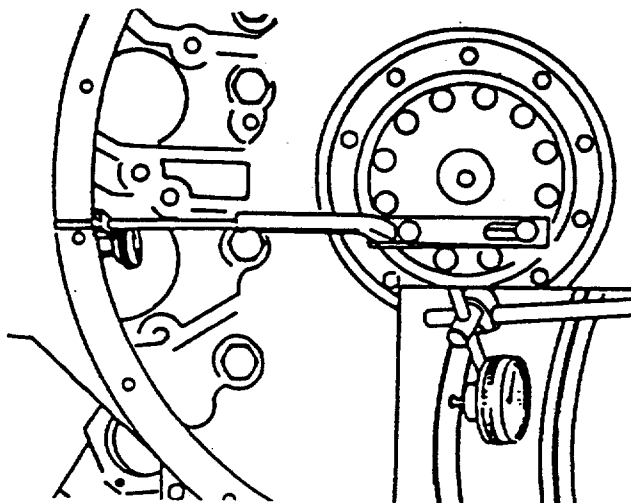

FIGURE 3-31. Flywheel Housing Bore Measurement.
- (1) Attach dial gauge attachment with a dial indicator to the crankshaft; position the indicator button on the clutch bore (FIG. 3-31).